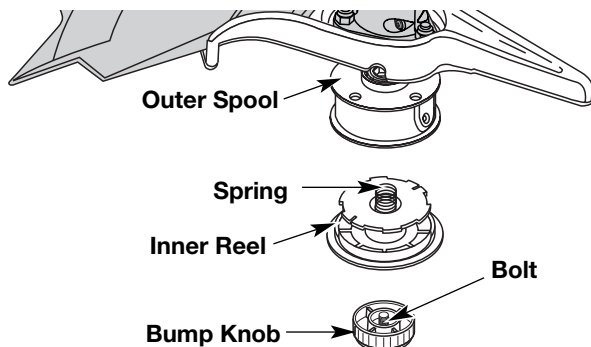

Fig. 23
1. Hold the outer spool with one hand and unscrew the Bump Knob clockwise (Fig. 23). Inspect the bolt inside the bump knob to make sure it moves freely. Replace the bump knob if damaged.
2. Remove the inner reel from the outer spool (Fig. 23).
3. Remove spring from the inner reel (Fig. 23).
1. Hold the outer spool with one hand and unscrew the bump knob clockwise (Fig. 23). Inspect the bolt inside the bump knob to make sure it moves freely. Replace the bump knob if damaged.
2. Remove the old inner reel from the outer spool (Fig. 23).
3. Remove the spring from the old inner reel (Fig. 23).